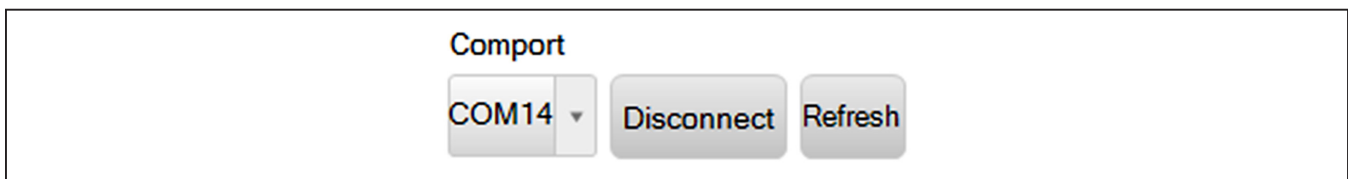

Figure 6. COM Port.
- a. Select the appropriate COM port and click on the <Connect> button (see Figure 6).